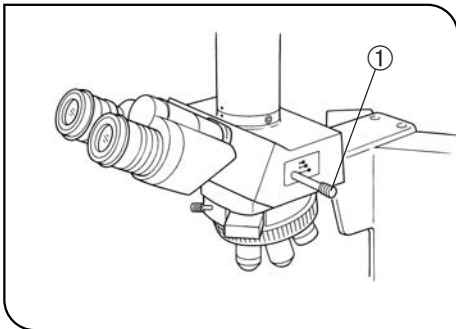

Fig. 26
**5 Selecting the Light Path (with the U-TR30-2 or U-SWTR-3) (Fig. 26)**